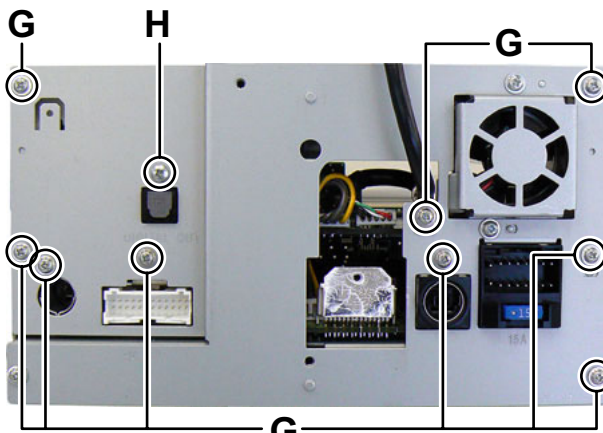

Fig.8
- (2) Remove the nine screws **G** and one screw **H** attaching the rear bracket. (See Fig.8)